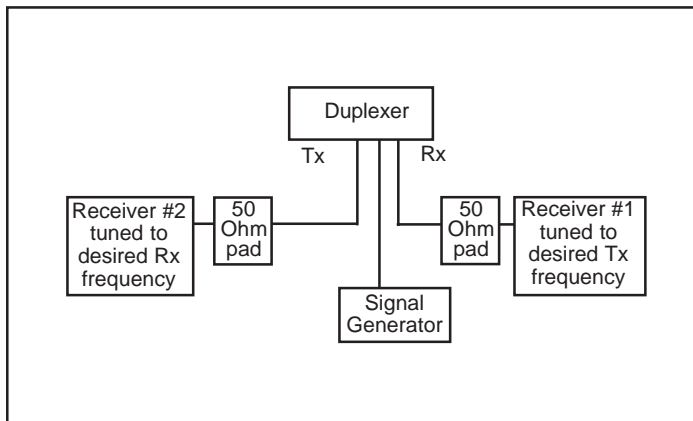

Figure 2a: Field Tuning Equipment
1. Connect the equipment as shown in Figure 2a. (If the receivers are not 50 ohms, place 50 ohm pads as shown in the illustration.)